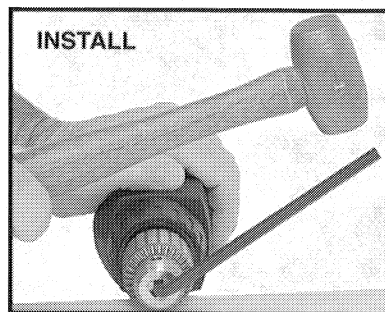

Fig. 10
7. Thread chuck onto spindle by turning chuck clockwise. Hand tighten. Install allen wrench in chuck (see Step 5). While supporting chuck on a solid surface, position allen wrench to the right (see Fig. 10), and strike wrench a sharp blow with a hammer to seat chuck onto spindle.